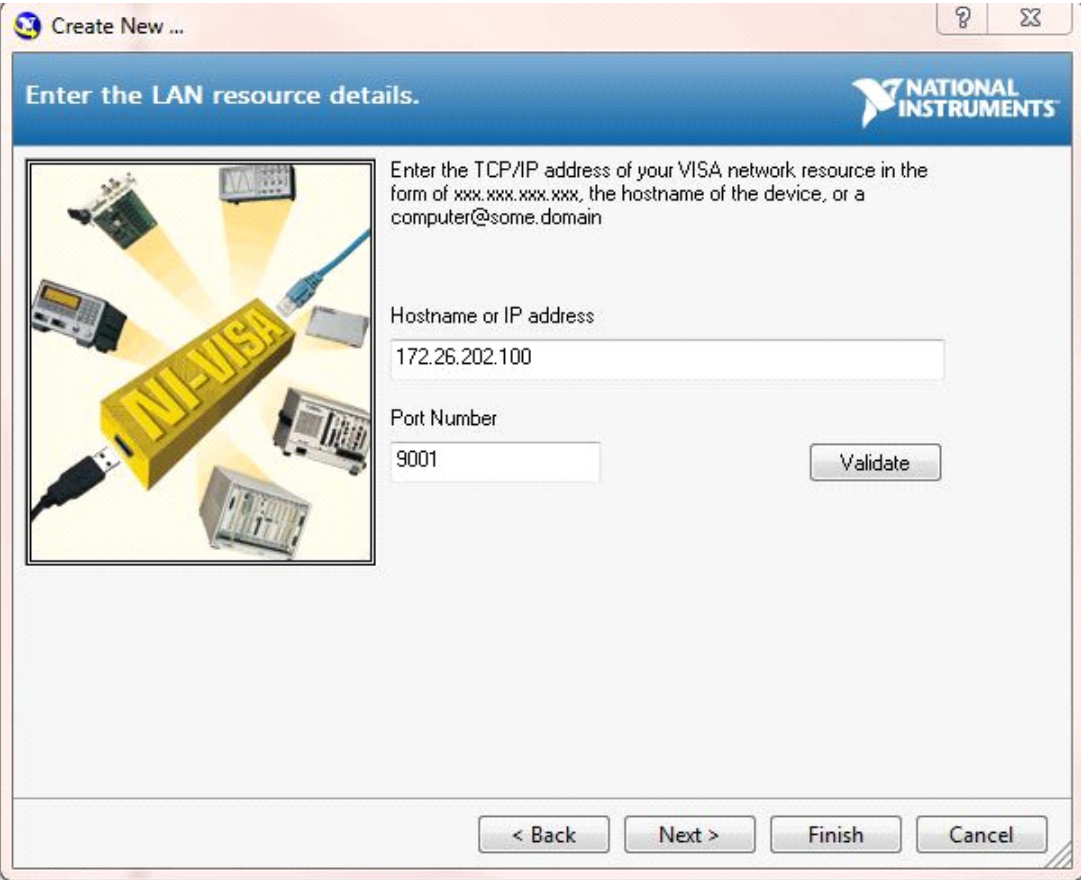

Figure 1-2. NI VISA Interactive Control LAN Resource Settings of IP Address and Port Number
- 2. Enter the IP address that the instrument has acquired (On the S331P, go to System, Status, Connectivity Info, then enter the IP address as shown in Figure 1-2.